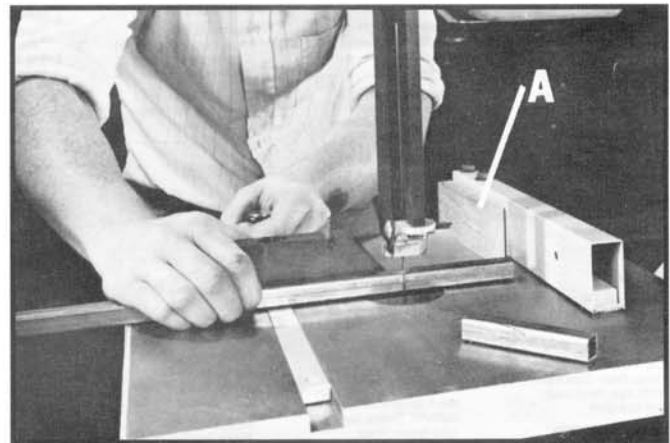

Fig. 34
With the addition of a wood facing (A) Fig. 34, the fence can be used as a cut-off gage when doing repetitive cross-cutting using the miter gage. The wood facing can be attached to the fence with a wood screw inserted through the hole provided in the fence. When using a wood facing on the fence for cut-off gage purposes, the wood facing should stop short of the saw blade, as shown in Fig. 34. The facing must not extend beyond the blade.